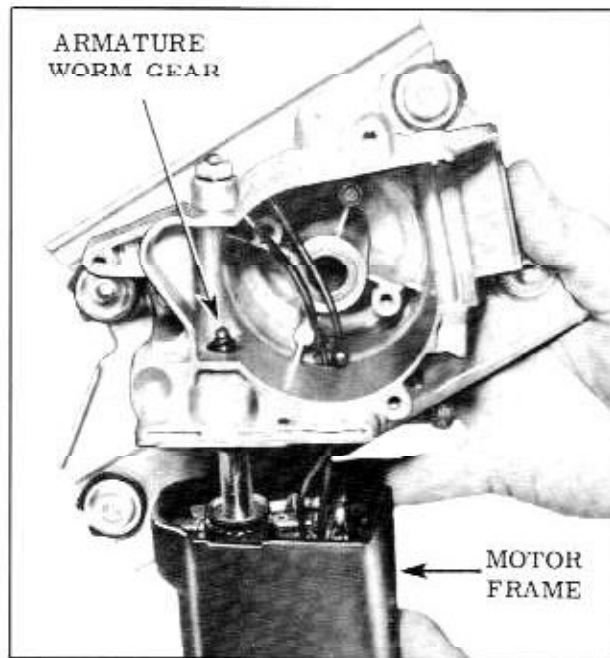

Fig. 13-120 Removing Motor Frame
4. Tap frame lightly to loosen from gear box and pull frame and armature assembly away from gear box. (Fig. 13-120)